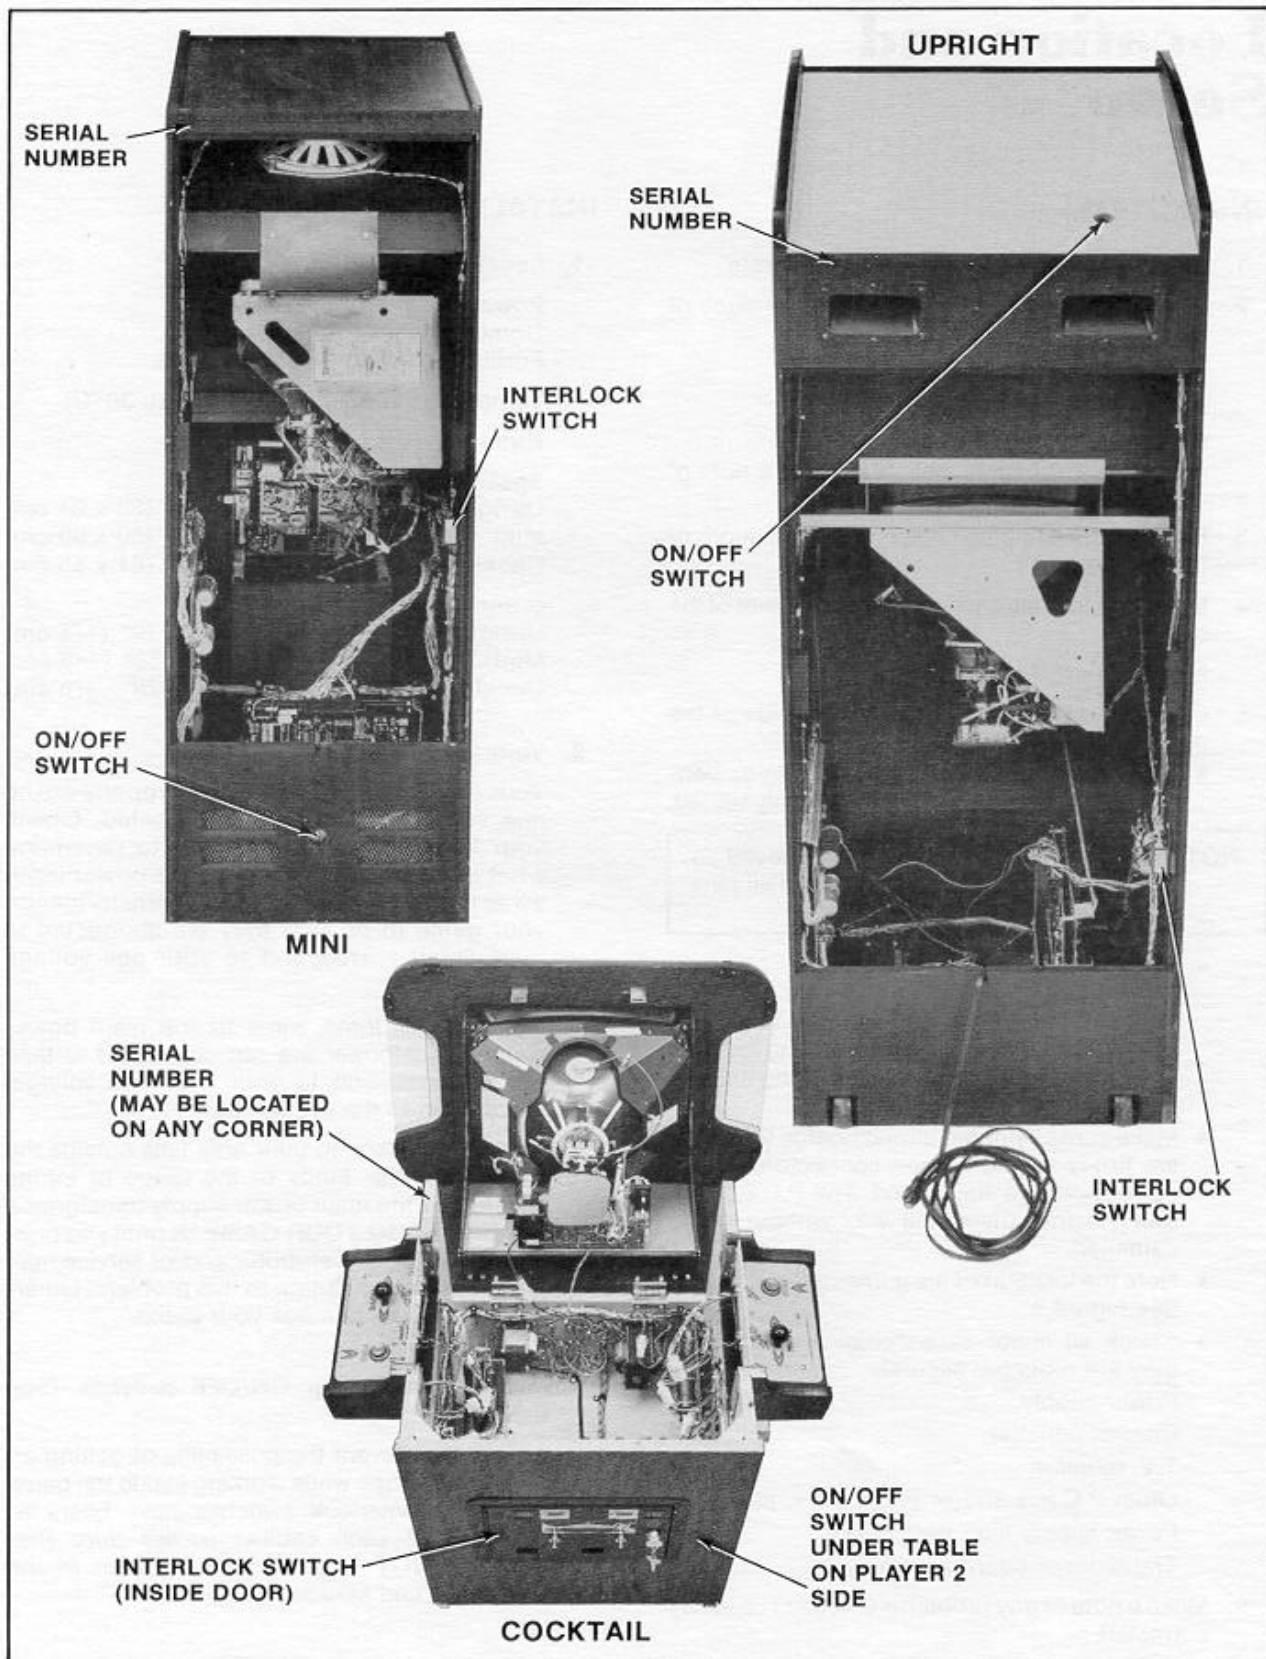

Figure 1. Location of serial number, interlock switch and ON/OFF switch.
- Note the location of the games serial number. See Figure 1.
### 3. Interlock and power ON/OFF switches. (See Figure 1.
The game ON/OFF switches for all models are located as shown in Figure 1. Turn the game on and allow it to warm up a few minutes.